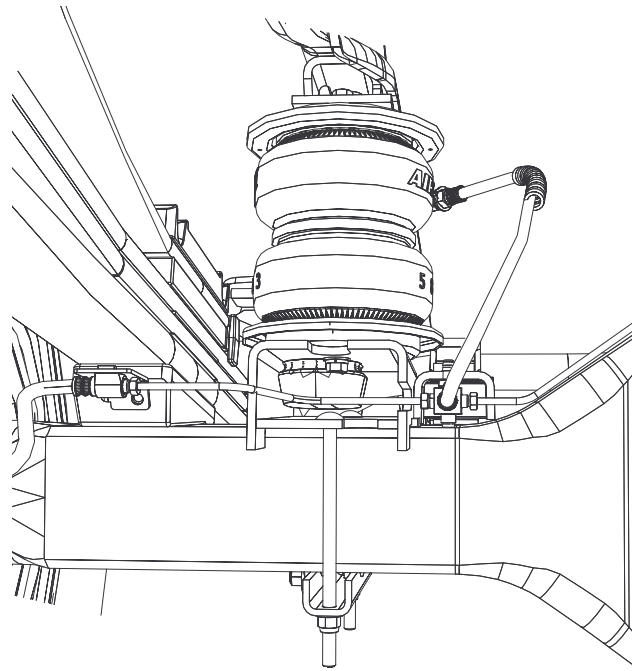

fig. 4
5. See finished assembly below in figure 4.